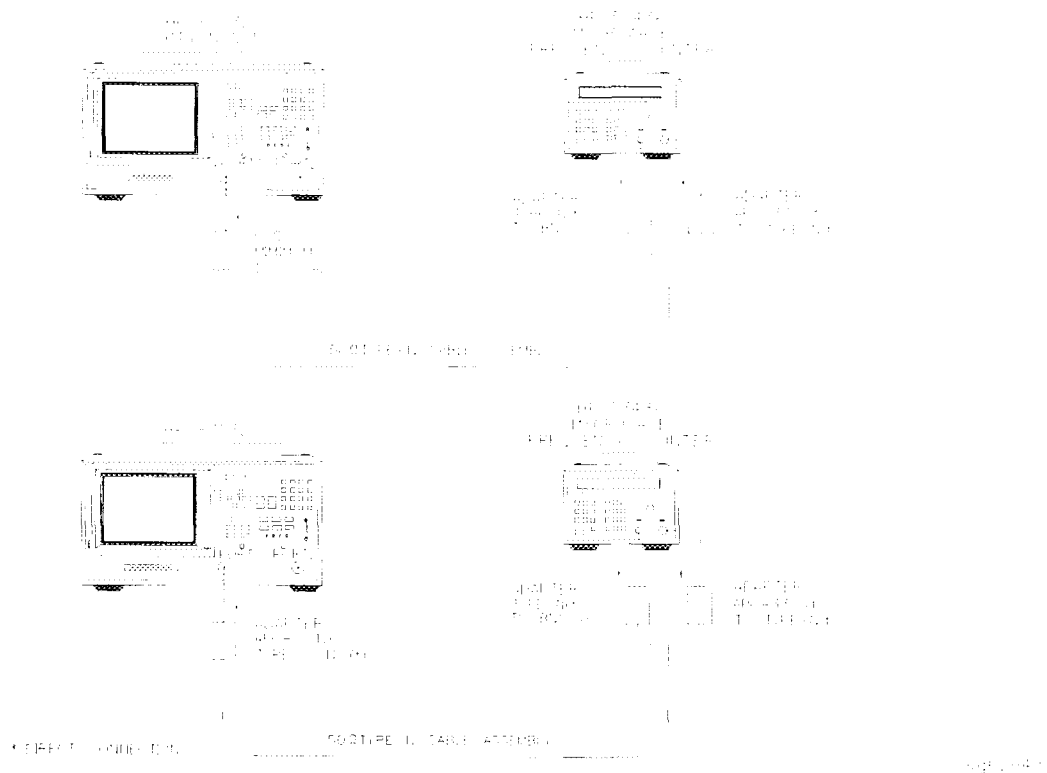

Figure 4-1. Test Port Output Frequency Range and Accuracy Test Setup
- 1 Connect the equipment as shown in Figure 4-1.